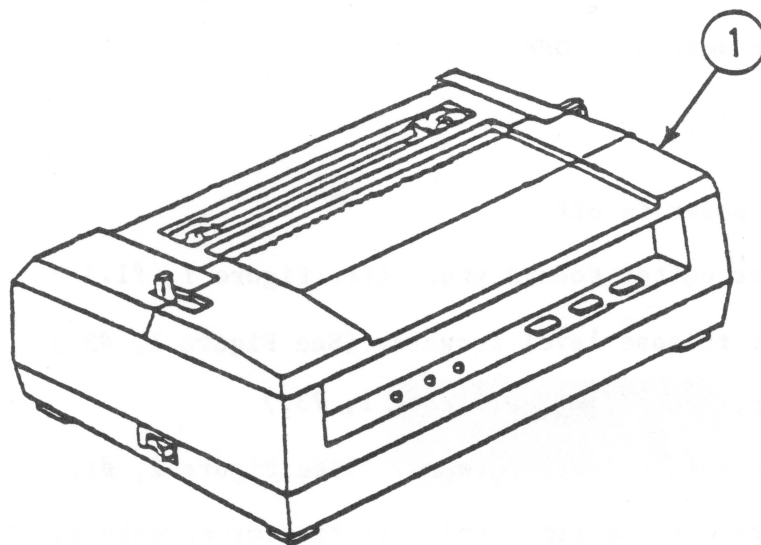

FIGURE 3
2. Remove the carrier cover. (See Figure 3, #1.)